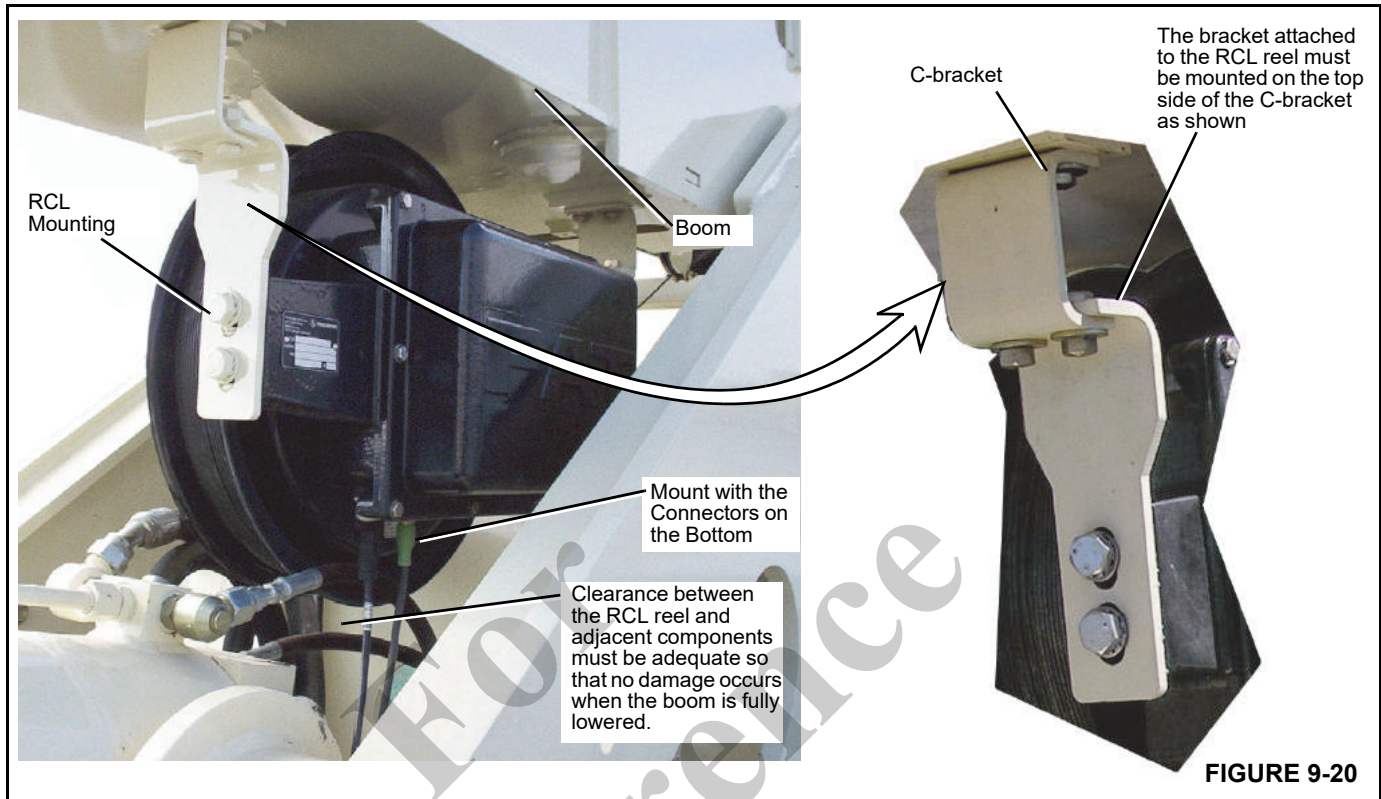

FIGURE 9-20
3. Attach the mounting brackets to the RCL reel and mount the RCL to the boom as shown in Figure 9-20.